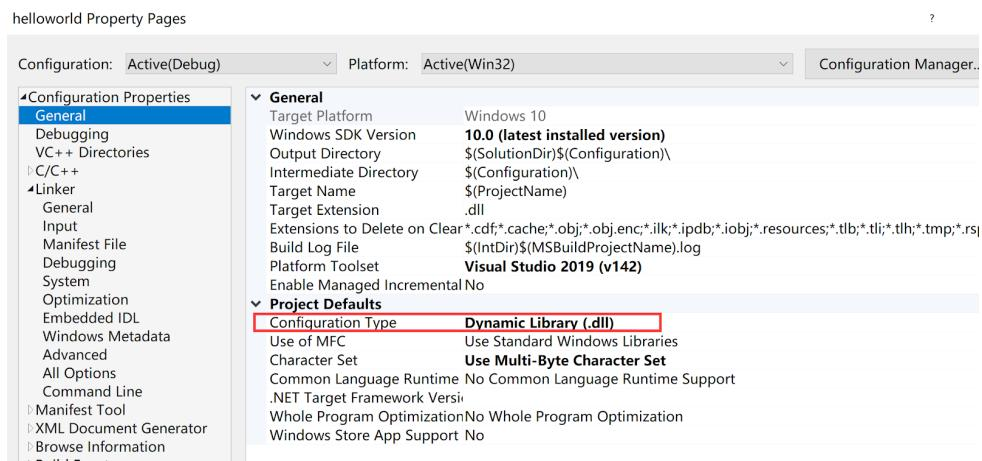

Figure 1.1: Set configuration type to .dll
- a. Set configuration type to .dll(shown as Figure 1.1):